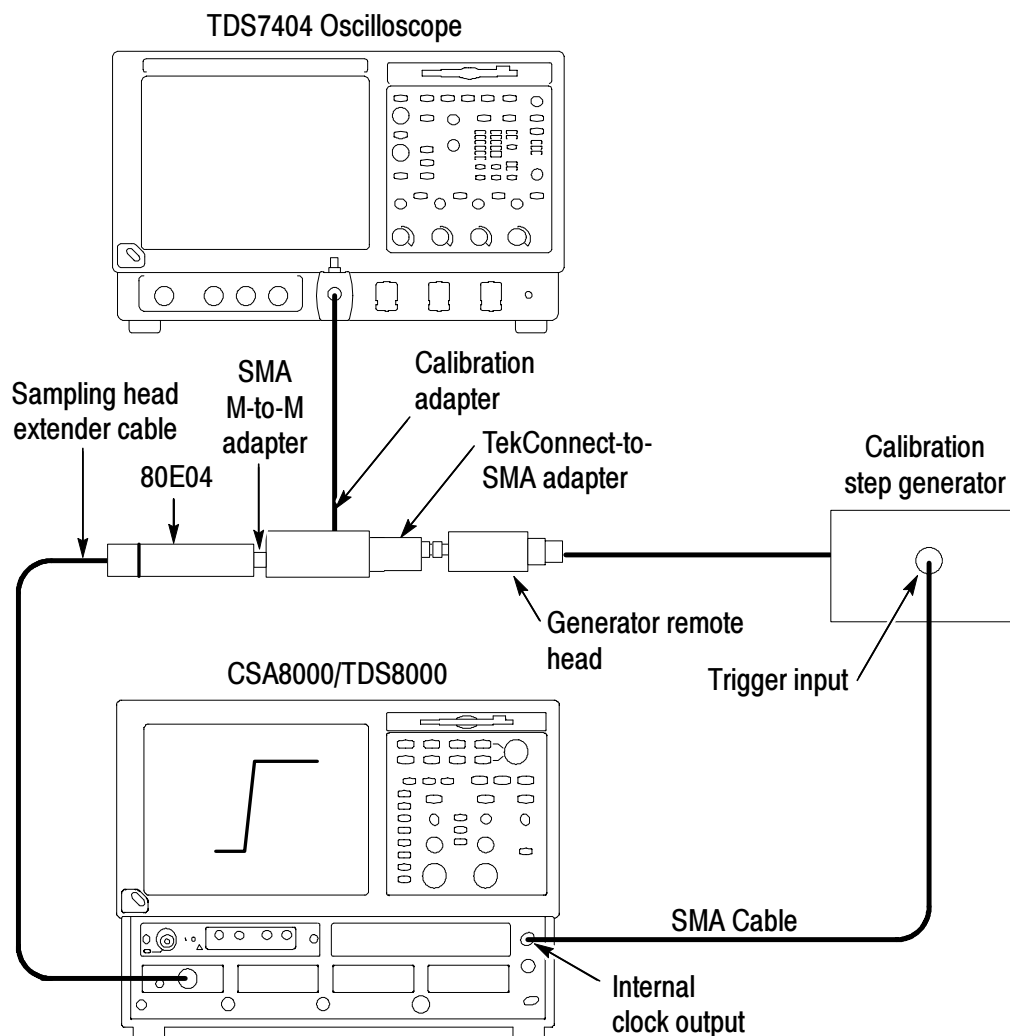

Figure 23: Test system rise time setup
1. Connect the test equipment as shown in Figure 23 on page 38.
4. Adjust the oscilloscope horizontal and vertical position controls to display a signal similar to that shown in Figure 23.